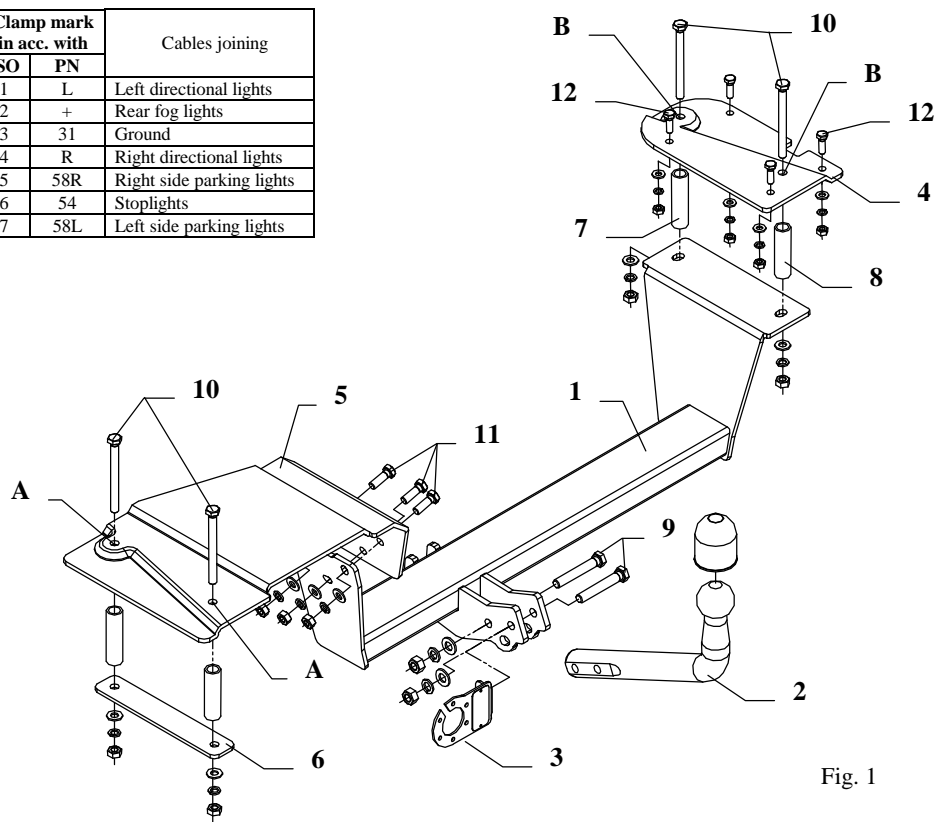

Fig. 1
6. To in this way prepared holes slip distance sleeves $L=74\text{mm}$ (pos. 8 - to holes closer rear of car) and sleeves $L=80\text{mm}$ (pos. 7) in rest of holes - see fig. 1.
7. Place elements (pos. 4 and 5) in the trunk as shown in the fig. 1, holes (pos. A and B) of this elements must agree with made holes, put bolts M10x110mm (pos. 10).
- Outline elements (pos. 4 and 5),
- Place again elements (pos. 4 and 5), place bolts M10x110mm (pos. 10).
8. Through three holes (invisible on the fig. 1) in bracket (pos. 5) drill holes $\varnothing 11\text{mm}$ straight through.
9. Through rest four holes in element (pos. 4) drill holes $\varnothing 9\text{mm}$ straight through.
10. To so prepared elements (pos. 4 and 5) put (from the bottom) the main bar of the towing hitch (pos. 1) and fix as showed on the fig. 1.
11. Fix tow-ball (pos. 2) and socket plate (pos. 3) using bolts M12x75mm (pos. 9) from towing hitch accessories.